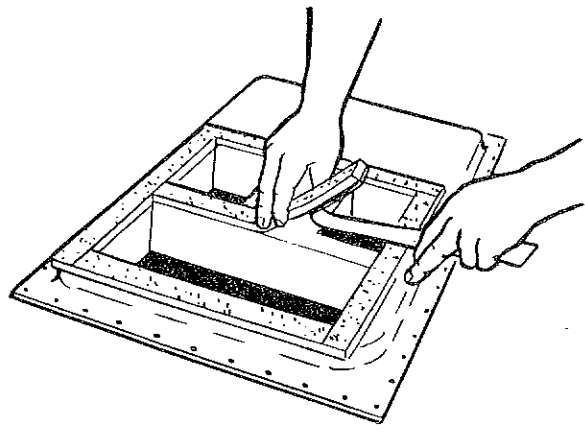

FIGURE 4
4. Apply foam tape sealer, provided, as shown in Figure 4.